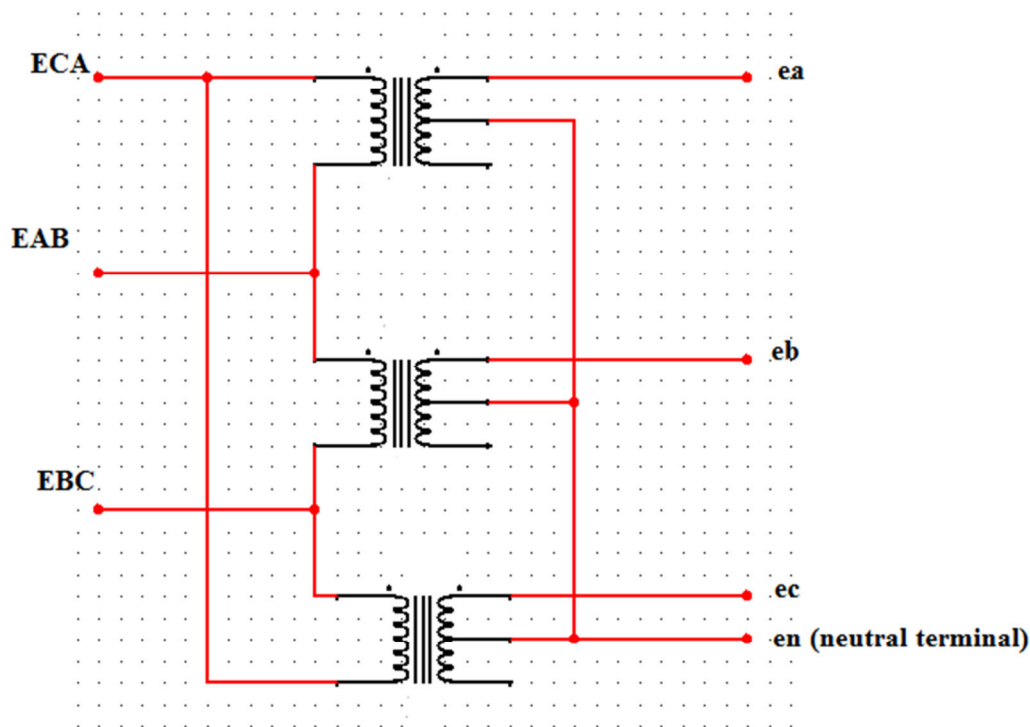

Figure 5.5: Delta to Wye Conversion
- Delta connection is available in the lab. Convert this delta into wye, by using transformer configuration shown in Figure 5.5. Step down transformers will be used in order to work at low voltage levels.